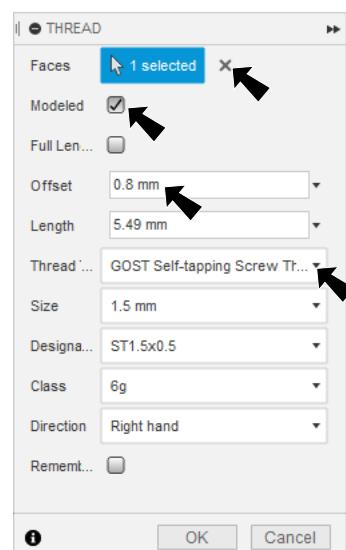

Fig. 13
Step 2. In the Threads panel, Fig. 13